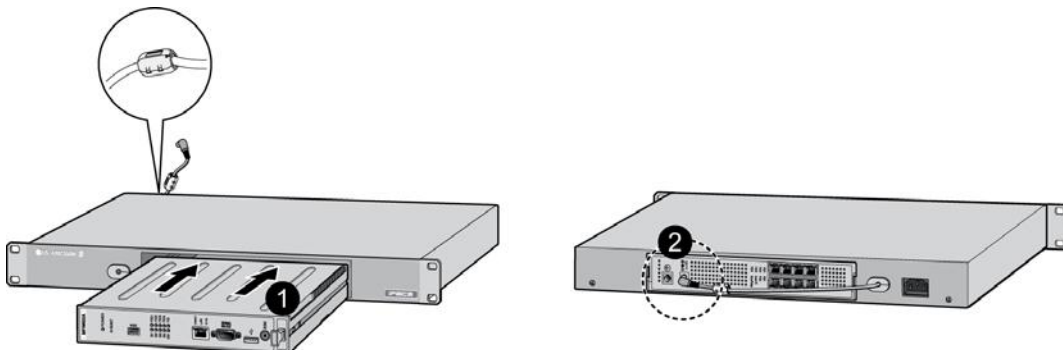

Figure 4.3.3-2 Mounting Module in 1URMB
3. Install the 1U-RMB in a standard 19” rack securely with four (4) appropriate machine screws, nuts and lock-washers. Refer to Figure 4.3.3-3.